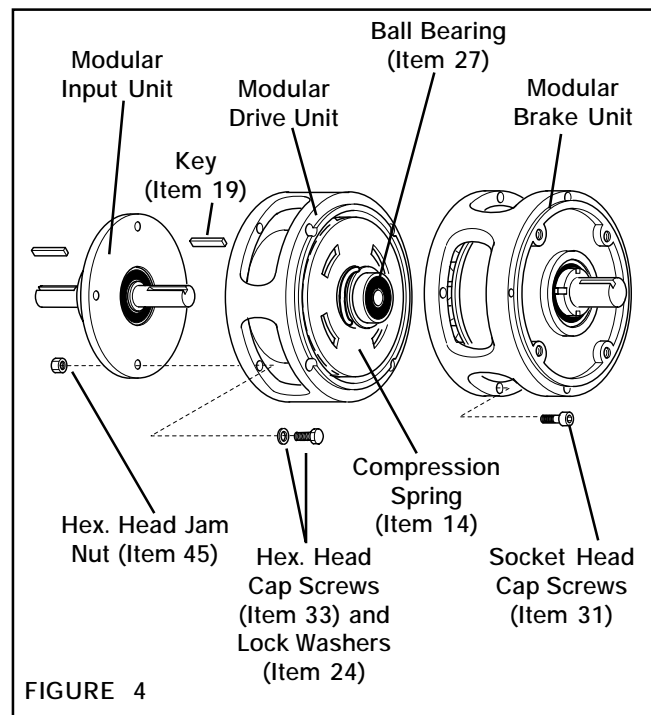

FIGURE 4
Refer to Figure 4.
5. Using the four Socket Head Cap Screws (Item 31), secure the MBU to the MDU (See Figure 4).
6. Alternately and evenly tighten the four Socket Head Cap Screws (Item 31) to 50 ft-lb [69 Nm] torque (See Figure 4).
7. Place the Key (Item 19) into the shaft of the Modular Input Unit (MIU). Slide the MIU shaft into MDU (See Figure 4).
8. Using the four Hex. Head Jam Nuts (Item 45), Hex. Head Cap Screws (Item 33), and Lock Washers (Item 24), secure the MIU to the MDU (See Figure 4).
9. Alternately and evenly tighten the four Hex. Head Jam Nuts (Item 45) to 20 ft-lb [27 Nm] torque (See Figure 4).